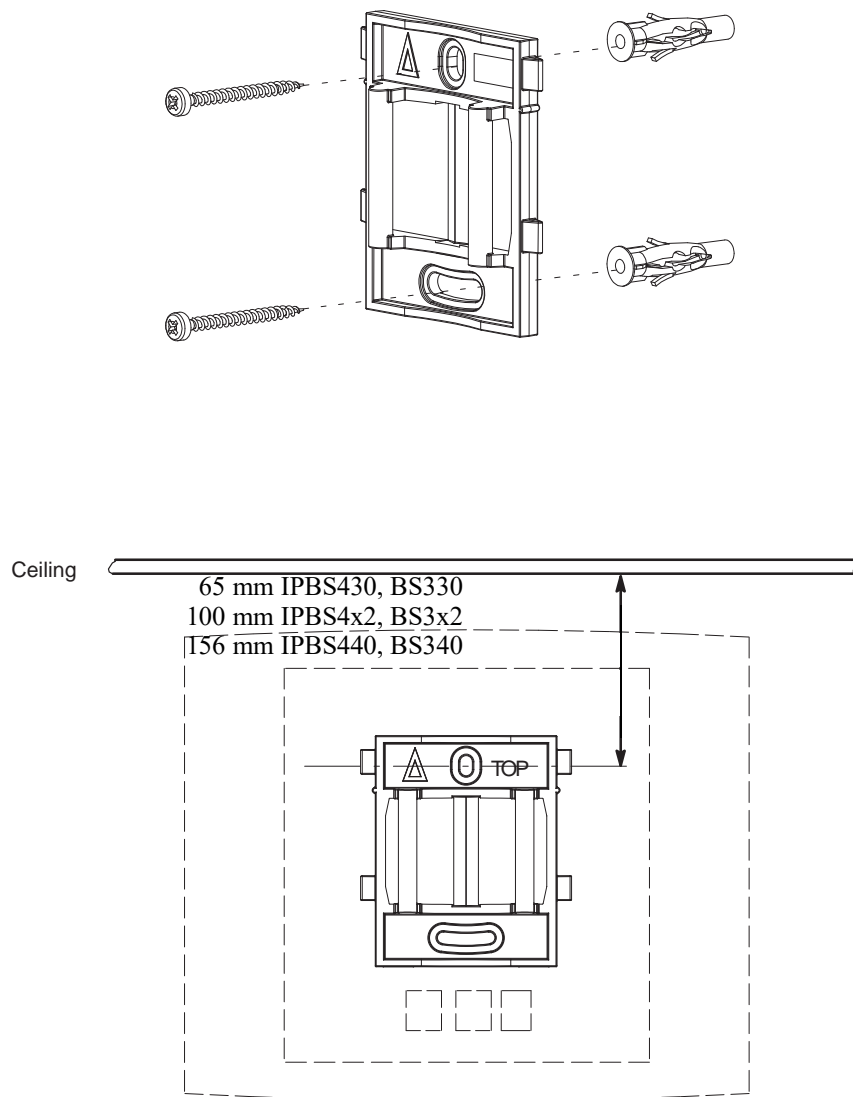

Figure 7. Fixing the mounting bracket to a wall.
Fix the mounting bracket (see figure 7 on page 18) to the wall as follows:
- 1 Hold the mounting bracket with its flat side against the wall with the text 'TOP' upwards and mark the two holes. The minimum distance between the upper hole and the ceiling or any object above the base station must be at least 65 mm for IPBS1/BS330 and 100 mm for IPBS2/IPBS3/DB1, see figure 7 on page 18. If the distance is less than 65/100 mm, the base station cannot be slid onto the bracket.